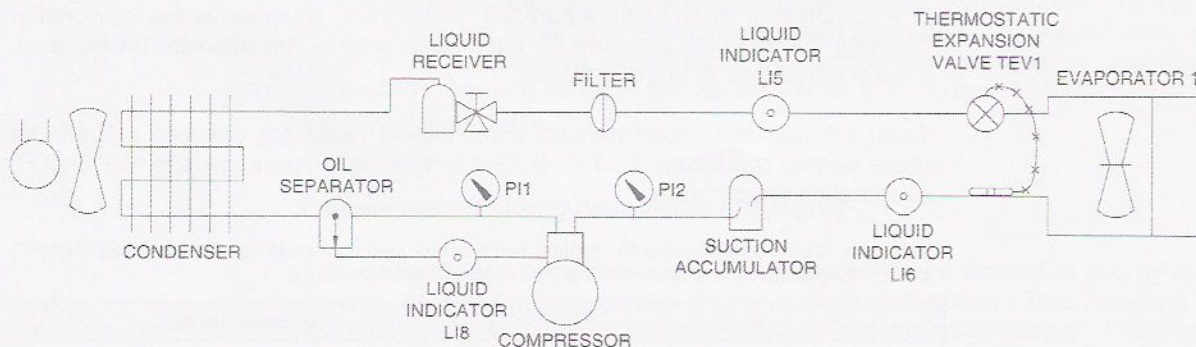
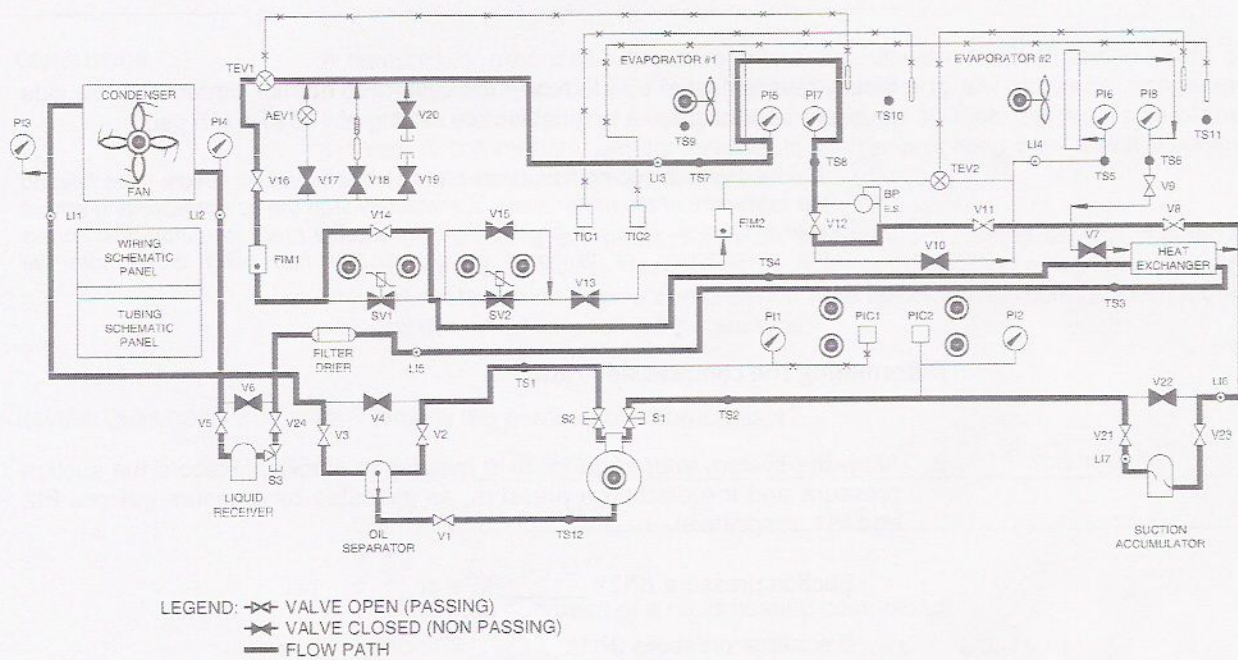

Figure 3-11. Typical refrigeration system.
Figure 3-12. Valve configuration.
A schematic diagram of a typical refrigeration system is shown in Figure 3-11. This system will be used to test the efficiency of the compressor.
The manual valves which must be opened or closed to arrange this system are not indicated on this schematic. However, a pictorial diagram of the system panel as shown in Figure 3-12 indicates the open and closed manual valves.
1. Open and close the manual valves to arrange the refrigeration system as shown in Figure 3-11. The schematic panel (tubing section) of the trainer shown in Figure 3-12 may be used to assist you at this point.